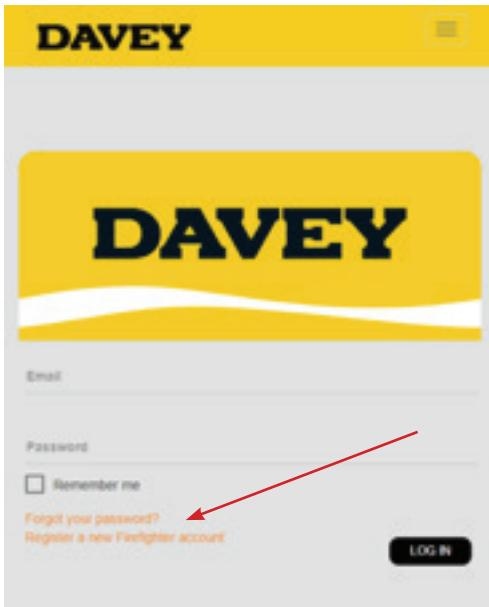

Figure 7.12
- Register your SIM against your account (*Figure 7.12*):